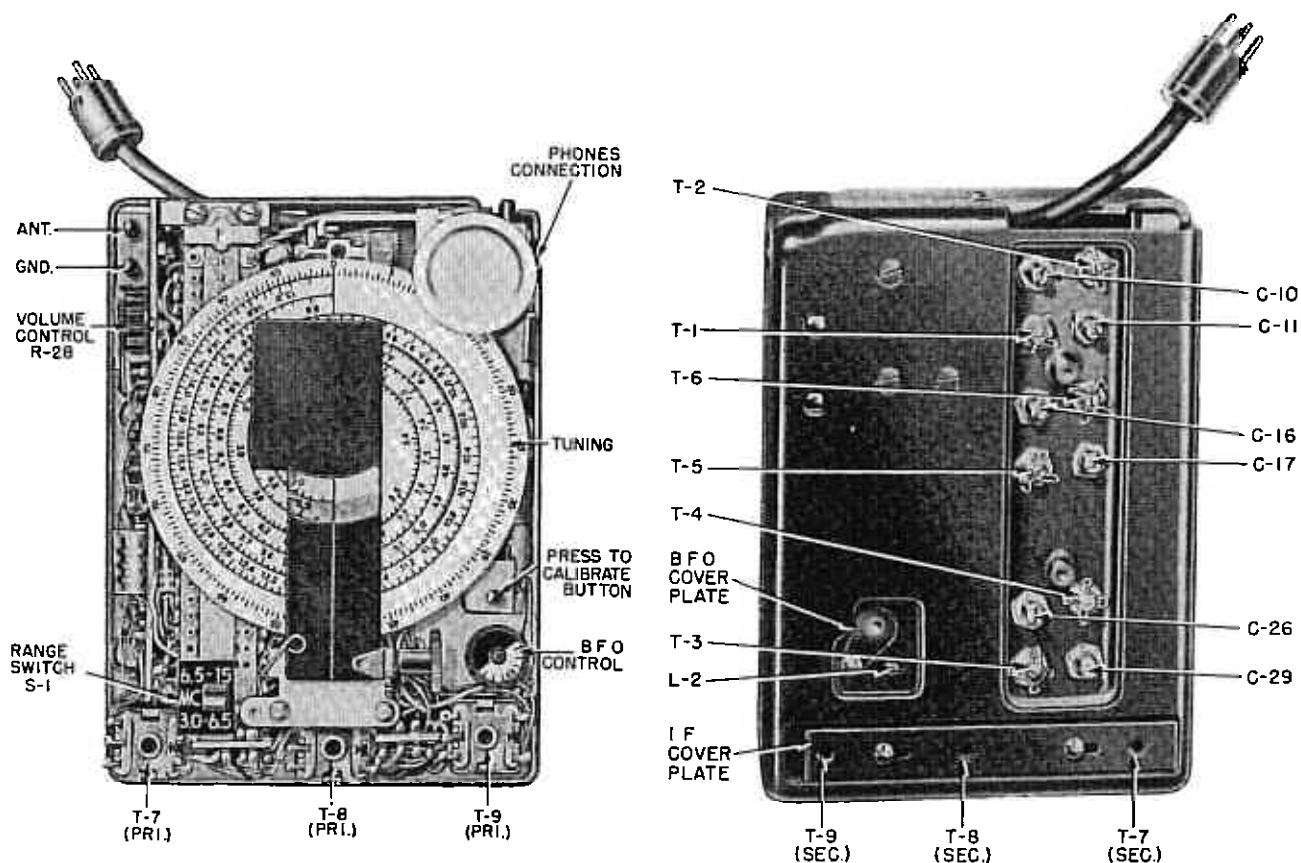

Figure 14. Receiver RR-6, top and bottom views showing alignment adjustment locations.
- (1) Connect the equipment, as directed in Chapter 2, Section I (do not connect phone when the output meter is used, as the output load impedance will be reduced by one-half).
- (2) Set RECVR-TRANS switch on Filter-Accessory Unit RA-6 to RECVR.
- (3) Expose bottom alignment adjustments as follows (see Figure 14):
(5) Remove the top cover and turn VOLUME control to maximum volume.
(6) Refer to Figure 14 for adjustment locations.
(7) Remove glyptal from the cores and trimmers in the r-f section with lacquer thinner or acetone. If thinner doesn't loosen the core sufficiently, apply the heat from a soldering iron.
(2) Set the generator output high enough to give about 5 mw output on the meter.
(3) Tune the primaries and secondaries of T9, T8, and T7 for maximum output on meter. (See Figure 14).
(4) The i-f sensitivity is normal if a generator output of 100 microvolts or less produces 5 mw output.
(1) With the equipment connected as above, turn off generator modulation, and set the BFO dial to zero. (The zero on the dial should be at three o'clock when viewed as in Figure 14.)
(2) Adjust the bfo coil (L2) for zero beat.
(3) After alignment of the bfo, apply glyptal to the adjustment screw.